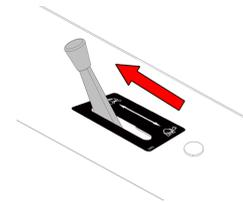

Figure 14 - Throttle Lever
1. Ensure the throttle lever is in the fast (hare) position (Figure 14).